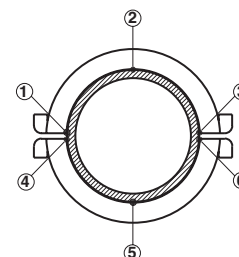

Fig. 14
15. For optimum alignment, the cover must be touching the tube perimeter at points 1 through 6 (see Fig. 14).